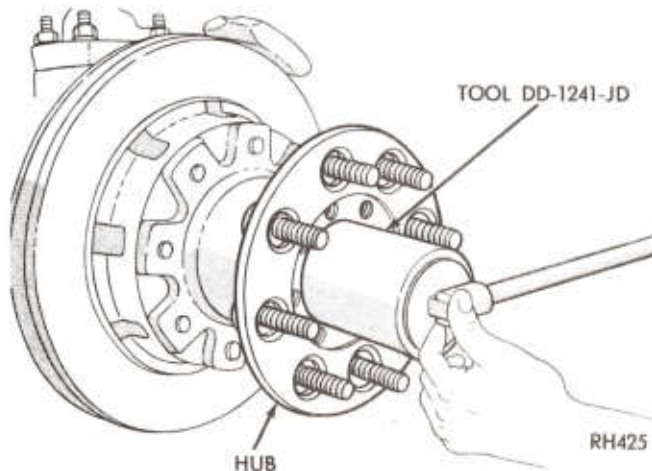
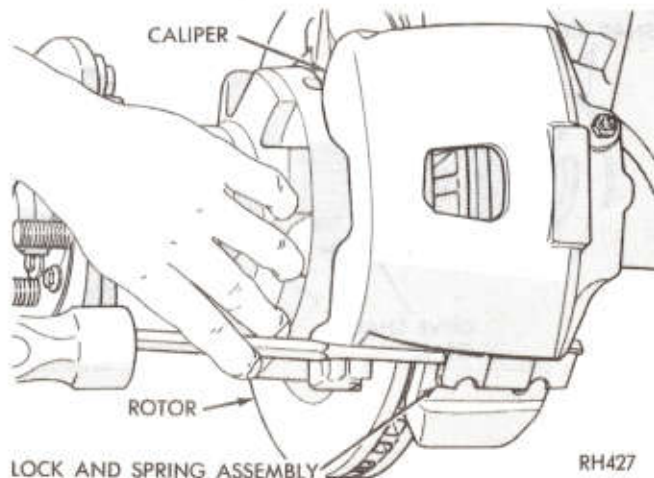
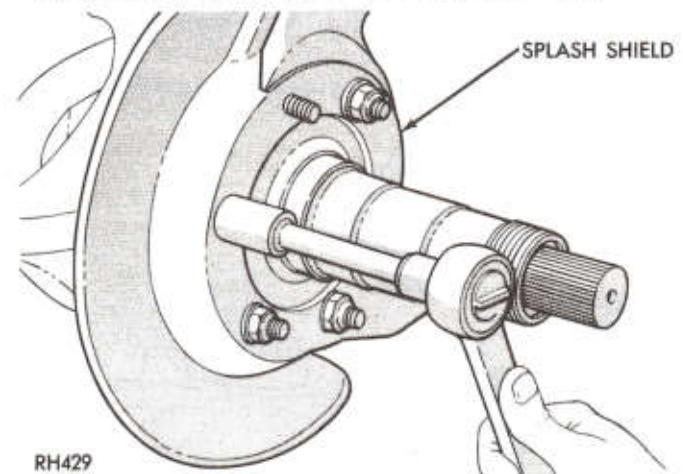

Fig. 2—Removing or Installing Outer Locknut
Fig. 4—Removing Caliper Lock and Spring
Fig. 6—Removing or Installing Spindle and Splash Shield
- (1) Raise vehicle clear of floor and install jack stands.
- (2) Remove hub cap. Using Tool C-4020, remove snap ring.
- (3) Remove flange nuts and lock washers. Remove drive flange and discard gasket, or remove locking hub if so equipped. See dualmatic hub removal and disassembly procedures.
- (4) Straighten tang on lock ring and using Tool DD-1241-JD (Fig. 2) remove outer lock nut and lock ring.
- (5) Using Tool DD-1241-JD and Tool C-3952, tighten inner lock nut to 50 ft. lbs. (68 N·m) to seat bearings, back off lock nut and retighten to 30 to 40 ft. lbs. (41 to 54 N·m) while rotating assembly. Back nut off 135° to 150°. Assemble lock ring and outer lock nut. Tighten lock nut to 65 ft. lbs. (88 N·m) minimum. Bend one tang of lock ring over inner lock nut and one tang of lock ring over outer lock nut. Final bearing adjustment to be .001 to .010 inch (.025 to .254mm).
- (6) Install new gasket on hub. Install drive flange, lockwashers and nuts. Tighten to 30 to 40 ft. lbs. (41 to 54 N·m). Using Tool C-4020, install snap ring. Install hub cap, or install locking hub if so equipped. See dualmatic hub—assembly.
- (7) Remove jack stands, lower vehicle and test vehicle operation.
- (5) Tap adapter lock and spring from between caliper and adapter (Fig. 4).
- (6) Carefully separate caliper from adapter. Hang caliper out of the way. **Do not allow caliper to hang or be supported by hydraulic brake hose.** Inner brake shoe will remain on adapter.
- (7) Remove hub cap. Using Tool C-4020 remove snap ring.
- (8) Remove flange nuts and lockwashers. Remove drive flange and discard gasket, or remove locking hub if so equipped. See dualmatic hub removal and disassembly procedures.
- (9) Straighten tang on lock ring and using Tool DD-1241-JD (Fig. 2), remove outer lock nut, lock ring, inner lock nut, and outer bearing. Carefully slide braking disc from spindle.
- (7) Remove hub cap and snap ring.
- (9) Straighten tang on lock ring and using Tool
(10) Remove inner brake shoe from adapter.
(11) Remove nuts and washers holding brake splash shield, brake adapter and spindle to steering knuckle (Fig. 6).
(5) Tap adapter lock and spring from between caliper and adapter (Fig. 4).
(6) Carefully separate caliper from adapter. Hang caliper out of the way. **Do not allow caliper to hang or be supported by hydraulic brake hose.** Inner brake shoe will remain on adapter.
(7) Remove hub cap. Using Tool C-4020 remove snap ring.
(8) Remove flange nuts and lock washers. Remove
(9) Straighten tang on lock ring and using Tool DD-1241-JD (Fig. 2), remove outer lock nut, lock ring, inner lock nut and outer bearing. Carefully slide hub and rotor assembly from spindle.